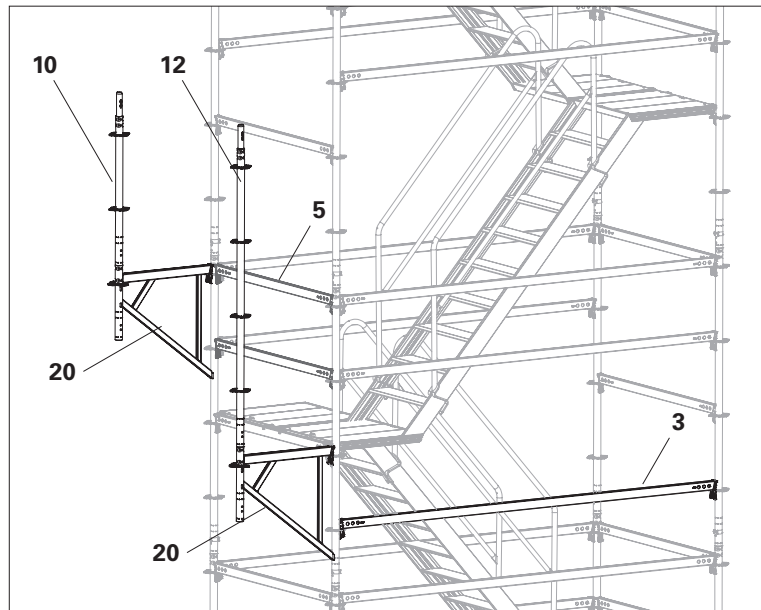

Fig. B6.03
3. Add Horizontal Ledger UH-2 300(**3**) 50 cm beneath the suspension of the console bracket, if not available. (Fig. B6.03)